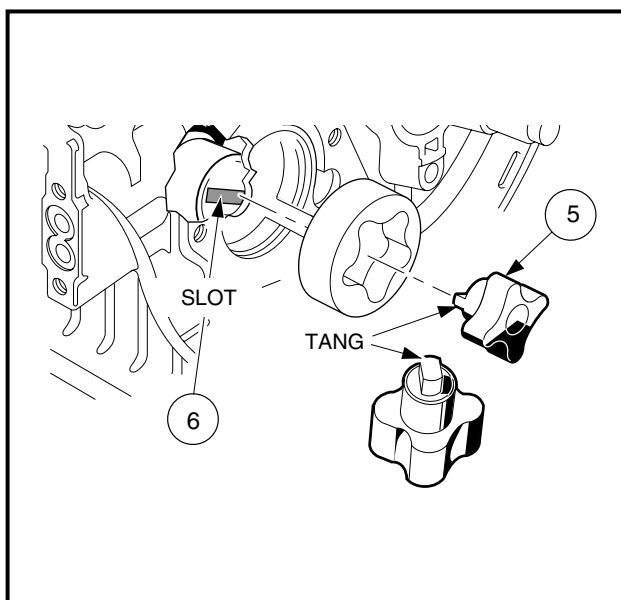

Figure 13-73 Install Inner Rotor
2. Install the inner rotor with its tang in the slot in the end of the camshaft (**Figure 13-73, Page 13-35**).